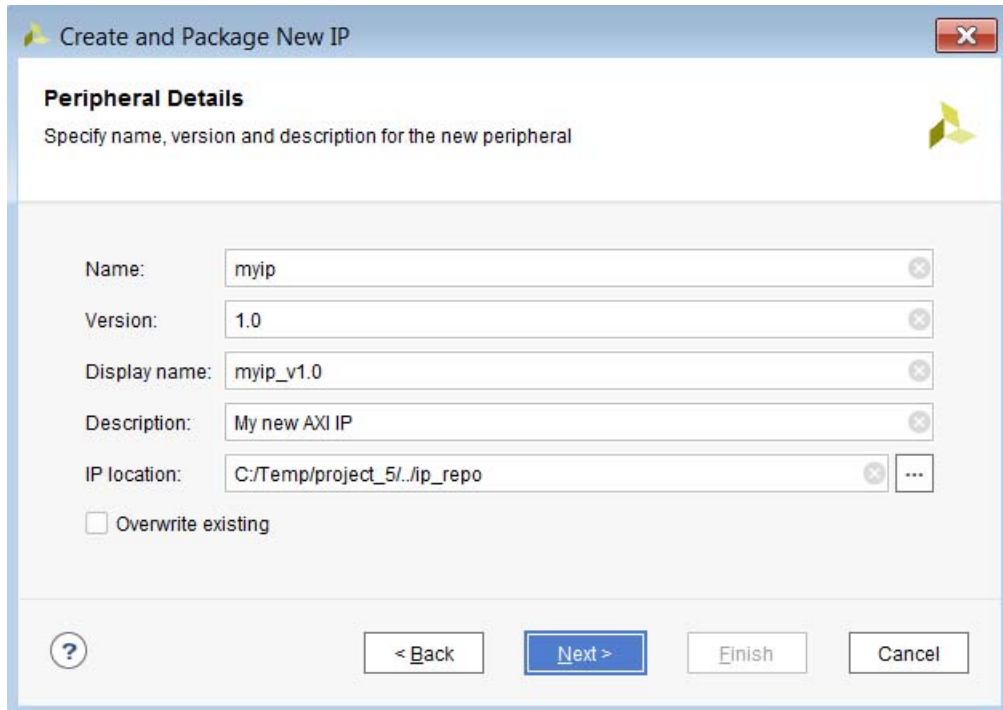

Figure 2-5: IP Details
5. Enter the IP details in the Peripheral Details page, as shown in Figure 2-5.